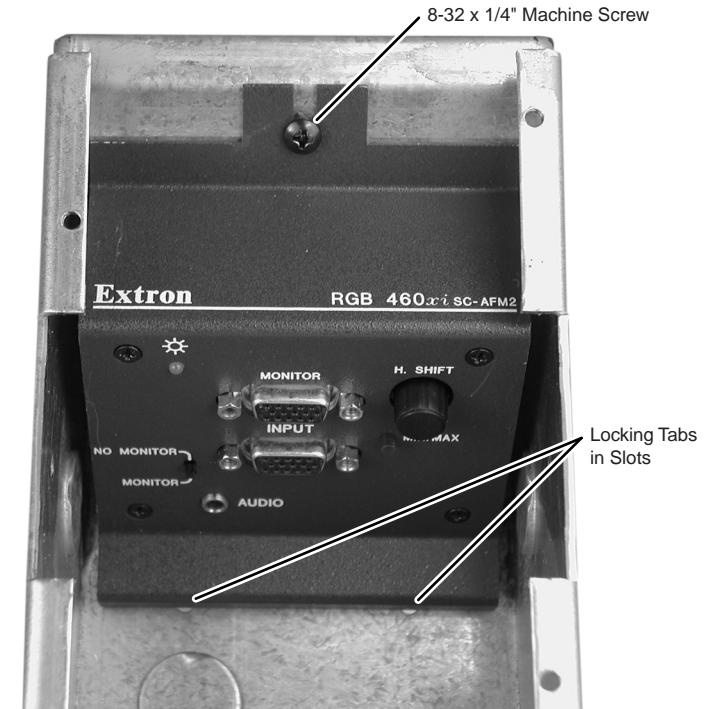

Figure 3 — RGB 460*xi* SC-AFM2 installed
- a. For the RGB 460*xi* SC-AFM2 and RGB 472*xi* SC-AFM2, hook the two locking tabs on the bottom of the faceplate into the slots on the bottom of the box is mounted. Secure the faceplate to the top of the floorbox with the included 8-32 x 1/4" machine screw (figure 3).